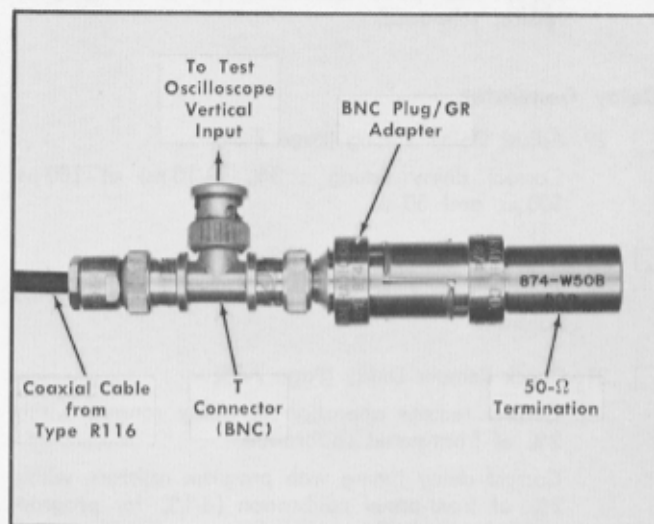

Fig. 7-3. Cable termination for connecting the Type R116 output pulse to the test oscilloscope vertical input.
7. Connect a terminated 50- Ω coaxial cable (see Fig. 7-3) to the Type R116 PULSE OUTPUT connector.
14. Set the instrument controls as given under Fig. 7-3.